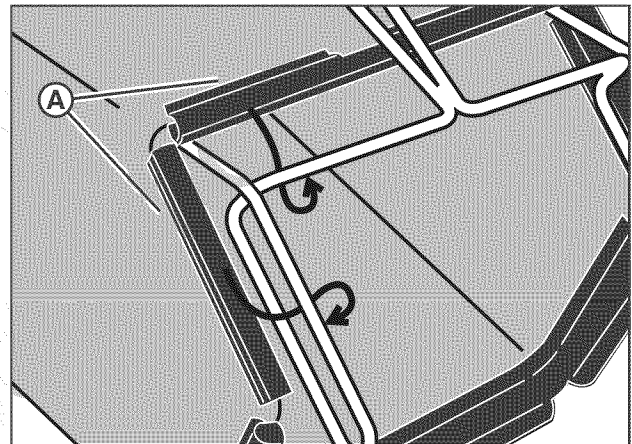

Figure 7: Installing the bag clips
2. First, attach the clips (A, Figure 7) to the side of the frame assembly. Next, attach the clips to the top and bottom of the frame assembly.